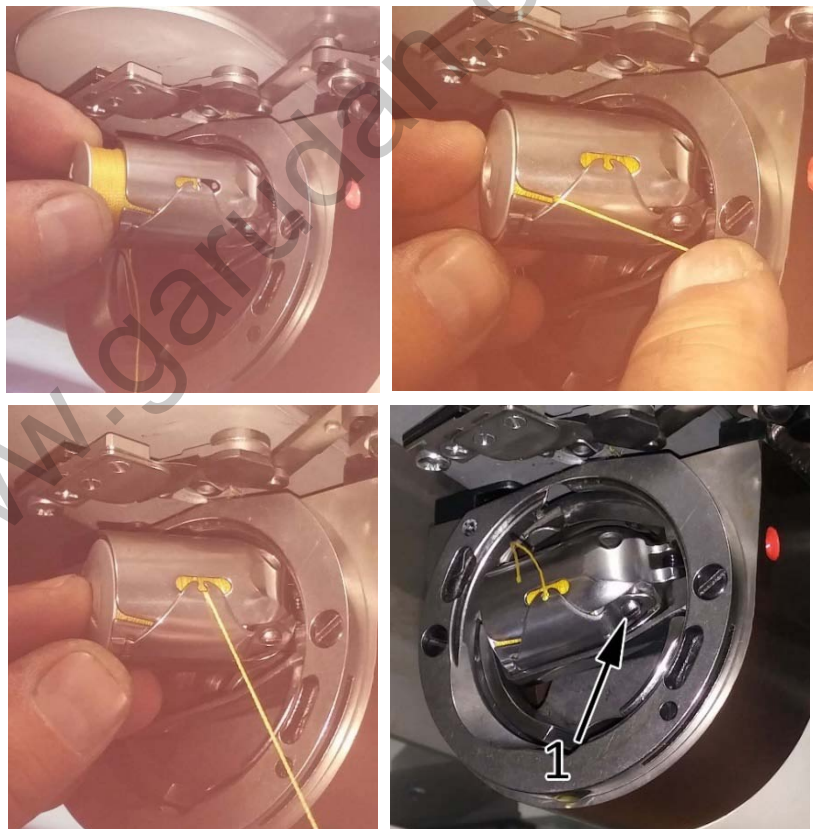

Fig. 10
Insert the threaded bobbin into the tilted bobbin case. Drain the thread into the outlet hole in the spring of bobbin case and push the case into the working position so that the lock locks in place, see Fig. 10
B. Bobbin thread tension adjustment, Fig. 10: As the figure shows, turn screw 1 clockwise to increase the tension, while counter clockwise to reduce the tension.